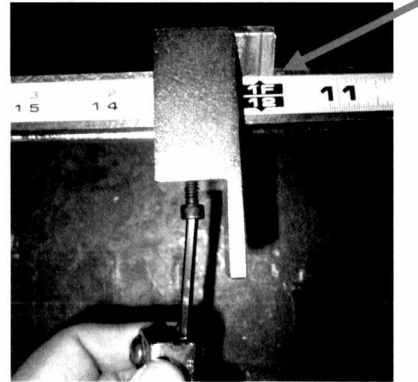

Figure 2.
- 3.) Slide the stop and align the red mark on the correct measurement, using the fixture-mounted scale. Tighten the set screw. (Figure 2).